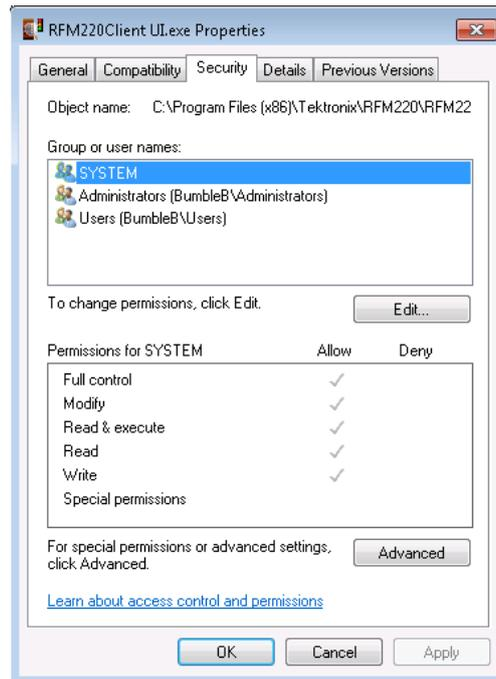

Figure 19: Setting full access privileges
3. Select **SYSTEM** in the list of groups and user names, and then set the full access permissions. (See Figure 19.)